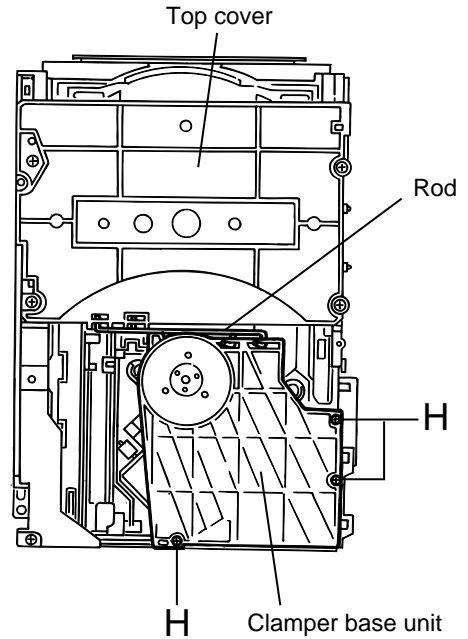

Fig.16
■ Removing the pickup (See Fig.16 to 20)